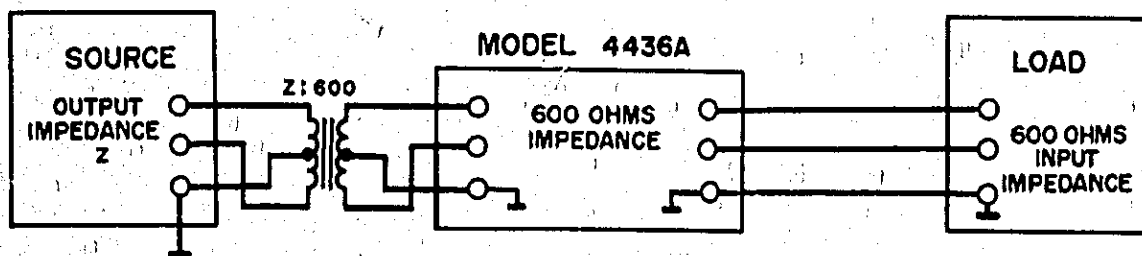

Figure 3-7. Input Matching with Transformer.
- b. Except for the condition stated in a., a resistive impedance - matching network or a matching transformer should be used. Impedance matching with matching transformer is shown in Figure 3-7. The transformer should possess good balance and frequency characteristics at the range of frequency to be used and proper input and output impedances equal to the source impedance and the impedance of the Model 4436A. Also, insertion loss of the transformer